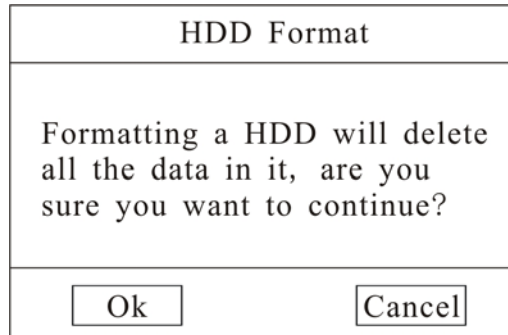

Fig. 33
- **HDD Format:** Select the HDD which will be formatted, press “Enter” key to get into HDD format interface as shown in Fig. 33.